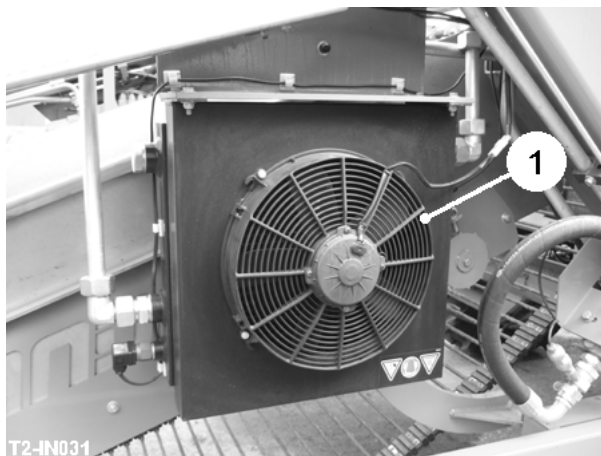

Fig 32
Some of the return oil from circuits 4 and 5 returns to tank through the oil cooler (item 1, fig 32). The electric powered fan is thermostatically switched to operate when the oil reaches 60 °C.